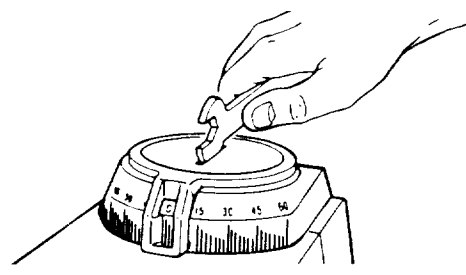

Fig. 55
21. Set miter indicator on 0° position as shown. (Figure 55)